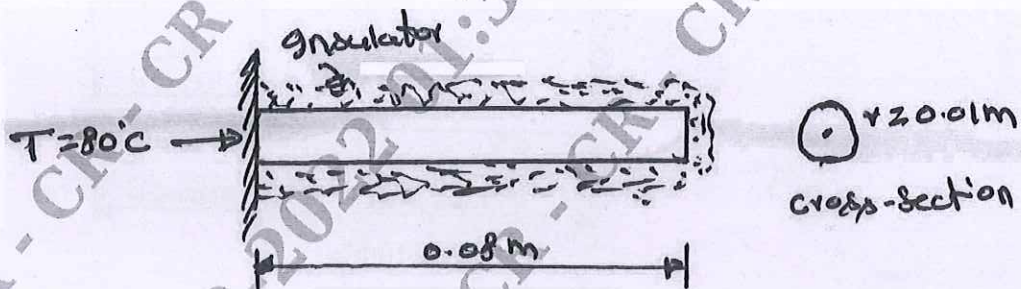

Fig.Q8(a)
- 8 a. Calculate the temperature distribution in a one dimensional fin with the physical properties given in Fig.Q8(a). There is a uniform generation of heat inside the wall of $\bar{Q} = 400 \text{ W/m}^3$. Take $K = 300 \text{ W/m}^\circ\text{C}$.